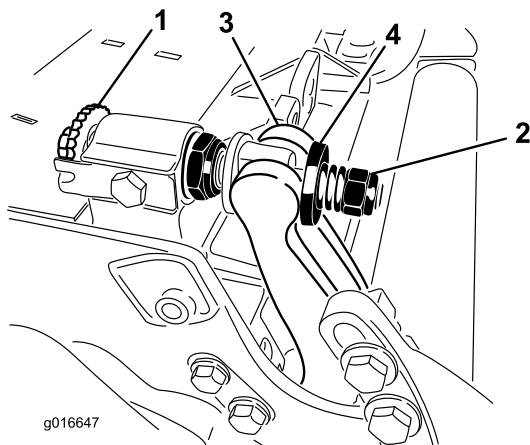

Figure 30
1. Turn the bedbar-adjuster screws counterclockwise to back the bedknife away from the reel (Figure 30).
2. Back out the spring-tension nut until the washer is no longer tensioned against the bedbar (Figure 30).